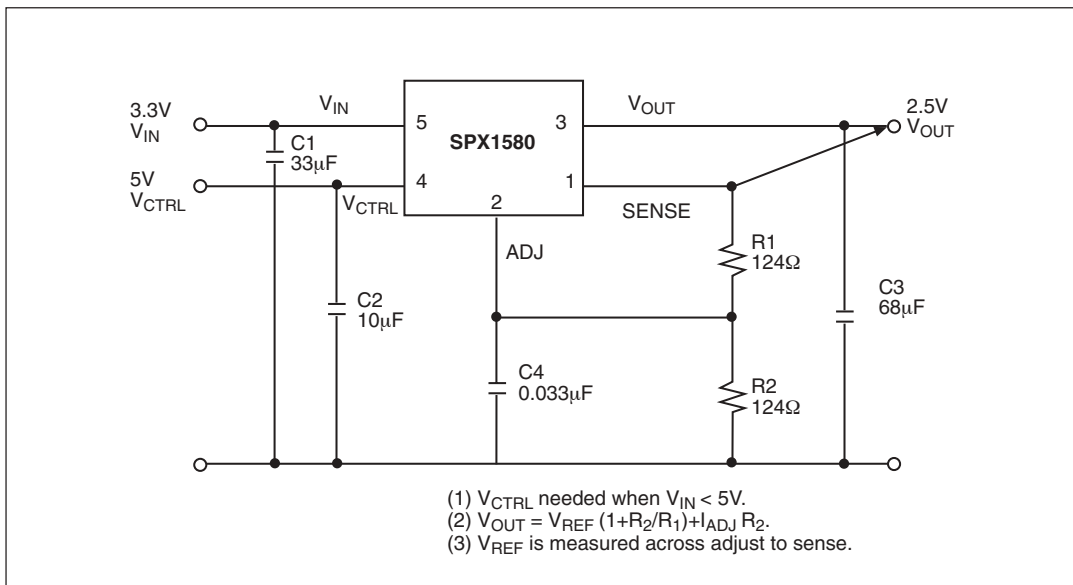

Figure 1. Adjustable Regulator.
1.25V reference voltage is being developed between the SENSE pin and the ADJ pin of the SPX1580. Adding two external resistors (see fig 1.) will allow setting the output voltage from 1.25V to 6V. R₁ is chosen so that this current is specified minimum load current of 10mA. R₂ is given by the formula: $V_{OUT} = V_{REF} (1 + R_2/R_1) + I_{ADJ} R_2$. The current flowing from the ADJ pin is typically 50 μ A. This ADJ pin contributes to the final V_{OUT} but is usually neglected. Connecting the sense pin to the top of the resistor divider will improve load regulation.